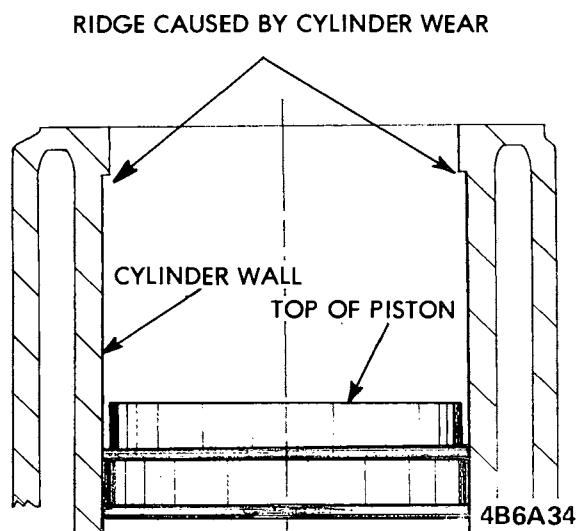

Figure 6A-81 - Ridge Formed by Rings at Top of Travel
2. Examine the cylinder bores above the ring travel. If bores are worn so that a shoulder or ridge exists at the top of the cylinder, remove the ridges with a ridge reamer to avoid damaging rings or cracking ring lands in pistons during removal. See Figure 6A-81.